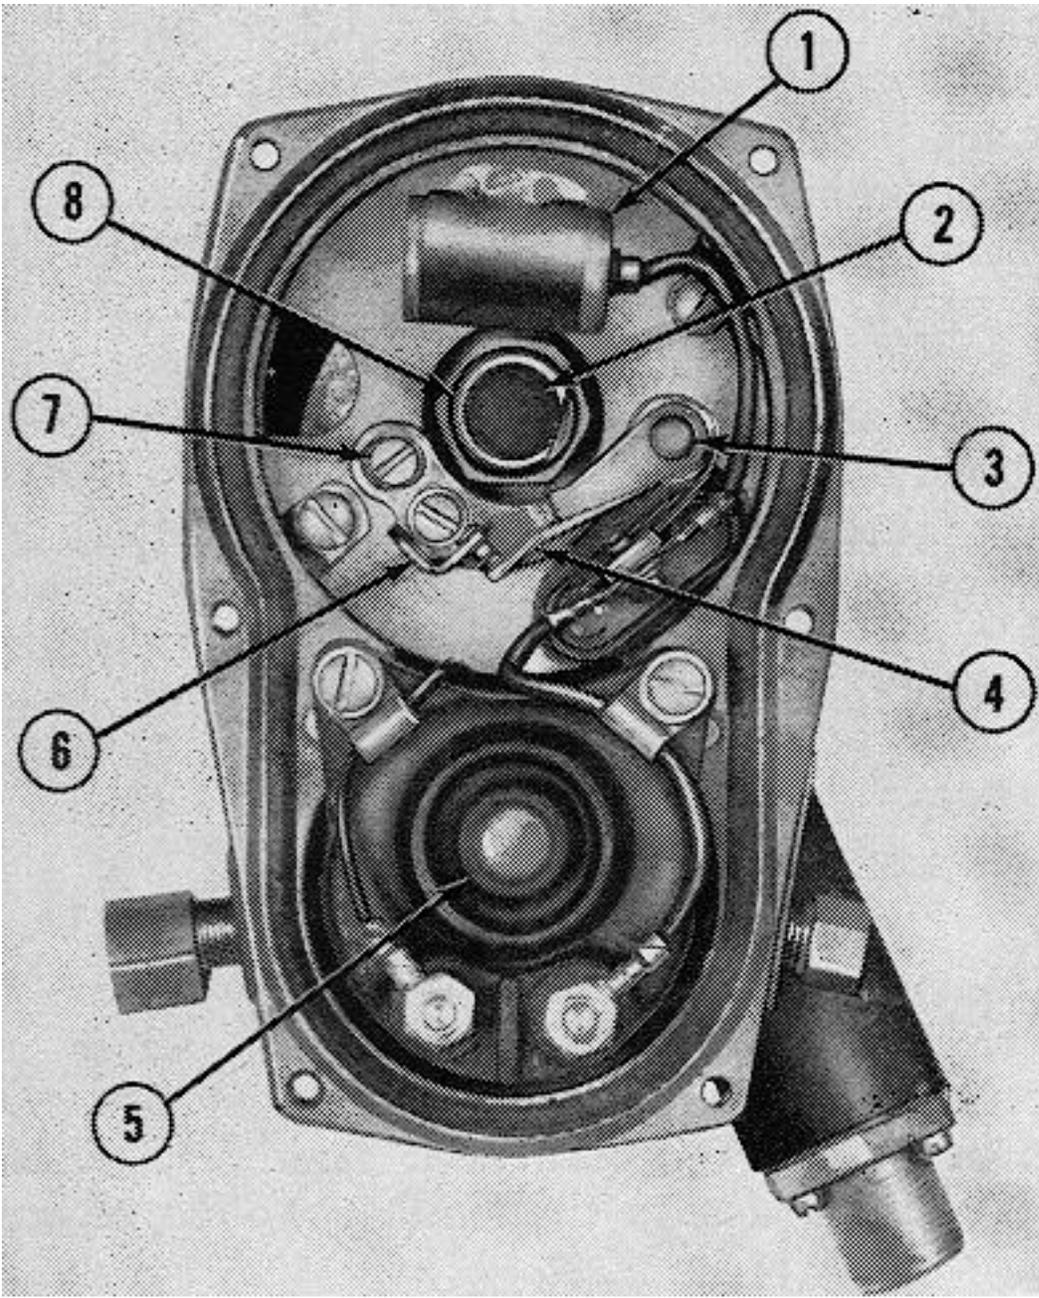

FIG. C-9—IGNITOR POINTS
- d. Examine the ignitor points. See Fig. C-9. If they show wear, poor mating, transferred metal, or pitting, then new points should be installed.
- f. The contact gap should be set at .020" measured with a wire gauge. Adjust the gap by loosening the adjusting screw and positioning the stationary contact (shown in Fig. C-9) until correct gap is secured. Be sure that the nylon block on the breaker arm is resting on the highest point on the cam while the adjustment is being made. Recheck the gap after locking the adjustment.